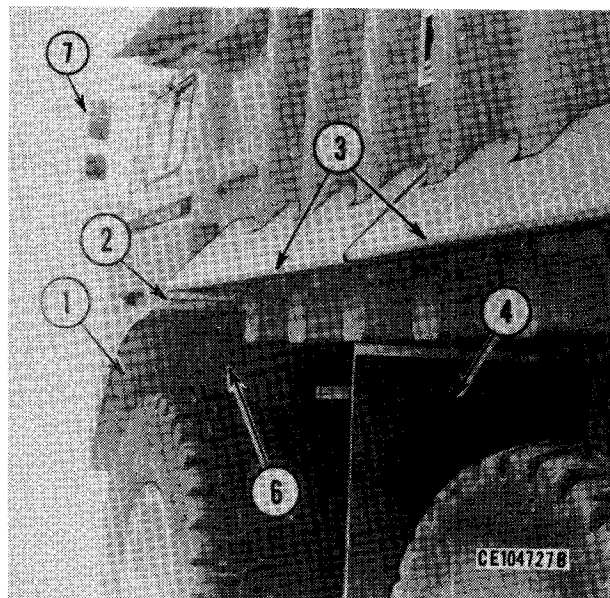
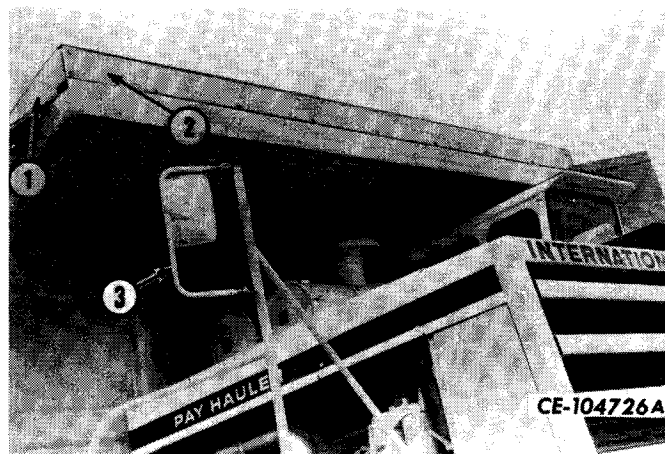

Fig. 5. Fenders, Extensions, Mud Guards, and LH Mirror
Fig. 6. Canopy Rock Fence and RH Mirror
- 7. Install the extensions (1, Fig. 5) and the angle (2, Fig. 5).
- 8. Install the rear mud guards (4, Fig. 5).
- 9. Install the body fenders (3, Fig. 5).
- 10. Install the RH (3, Fig. 6) and LH (7, Fig. 5) rear view mirrors.
- 11. Install the canopy rock fence channels (1, Fig. 6) and the rock fence angle (2, Fig. 6).